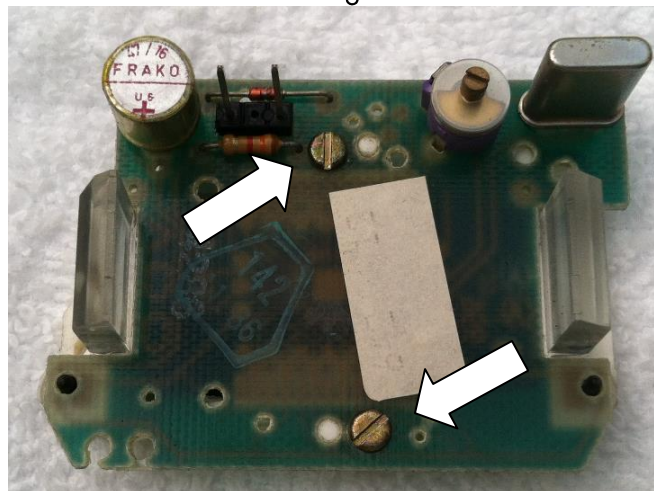

Figure 2: Remove 2 more screws
4. Remove the 2 screws from the circuit board shown in Fig 2 and lift off the circuit board.
11. Put the circuit board back in place and tighten the 2 screws (so now the assembly looks like Fig 2).